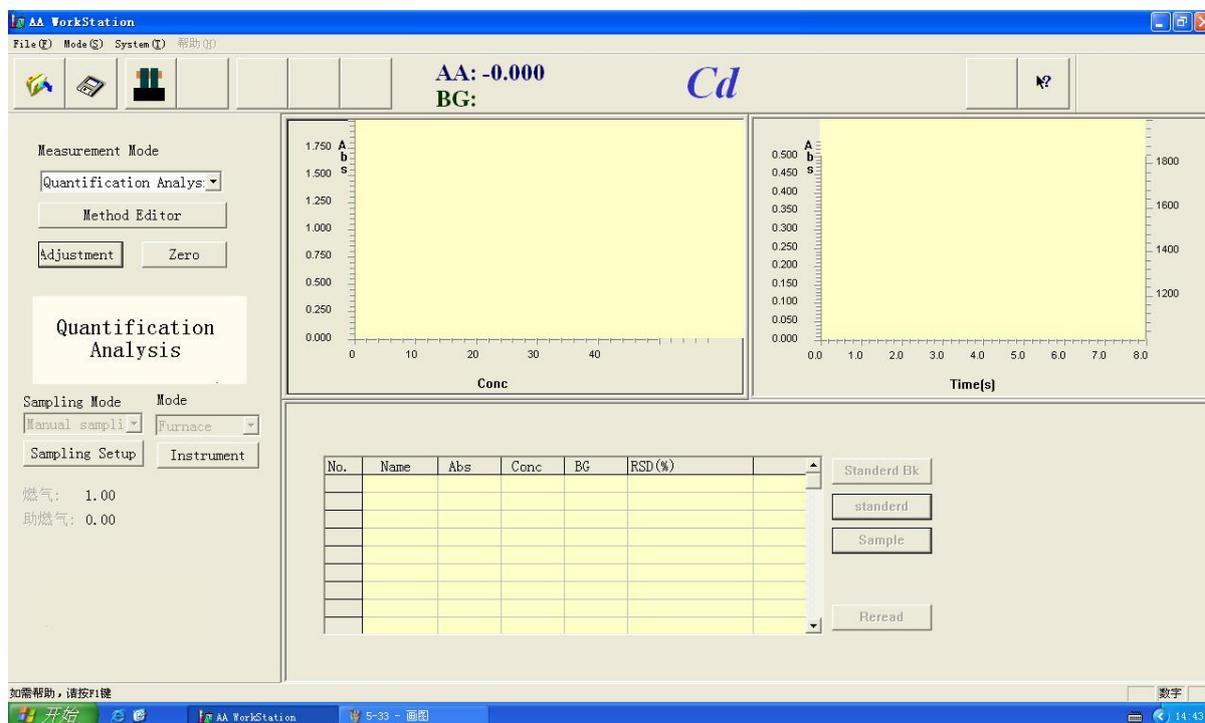

Figure 5-35
3. Figure 5-35, select the "quantification analysis" from the "Measurement Mode"